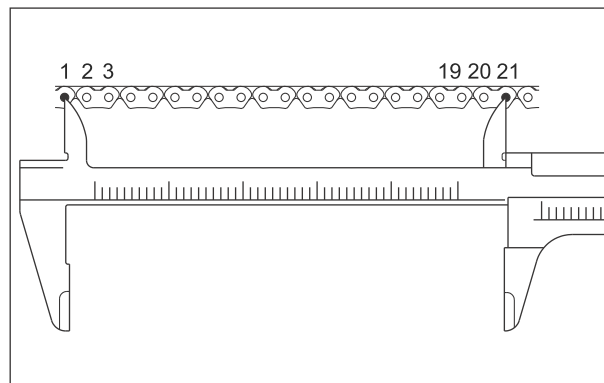

Fig. 3.70
- Count 21 pins on the cam chain and measure the distance between 20 pitch. (Fig. 3.70) If the distance measured exceeds the service limit, replace the cam chain with a new.